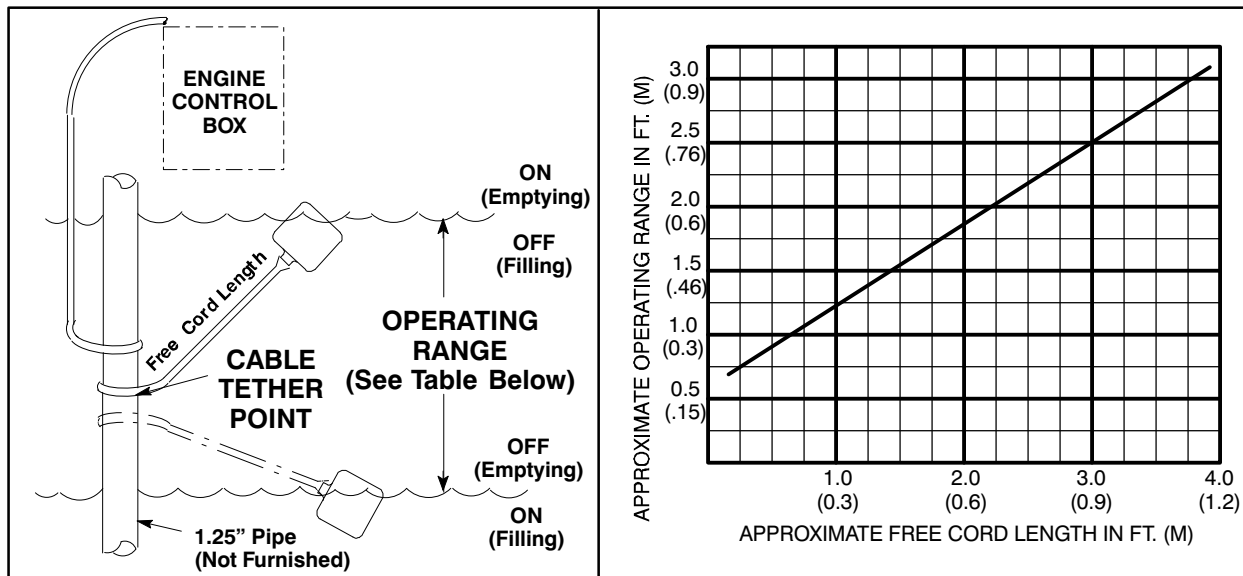

Figure 1. Float Switch Data
- d. Refer to Figure 1 for additional float switch data.